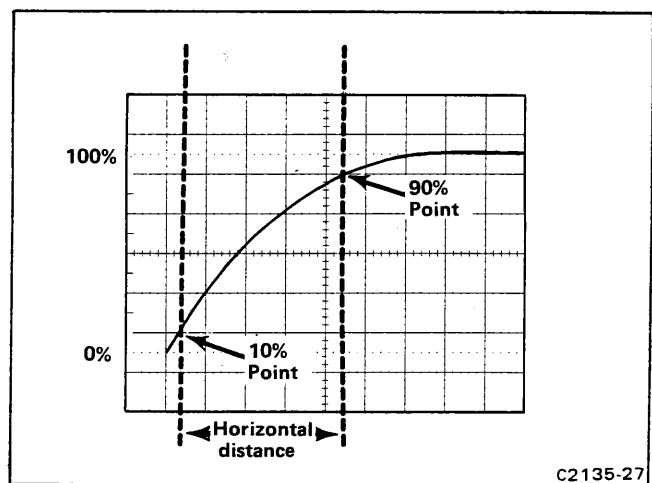

Figure 1-5. Measuring Rise Time.
EXAMPLE: The frequency of the signal shown in Figure 1-5, which has a period of 0.5 millisecond is
4. Set the time-base triggering controls to obtain a stable display. Set the Seconds/Div switch to the fastest sweep rate that will display less than eight divisions between the 10% and 90% points on the waveform (see Fig. 1-5).